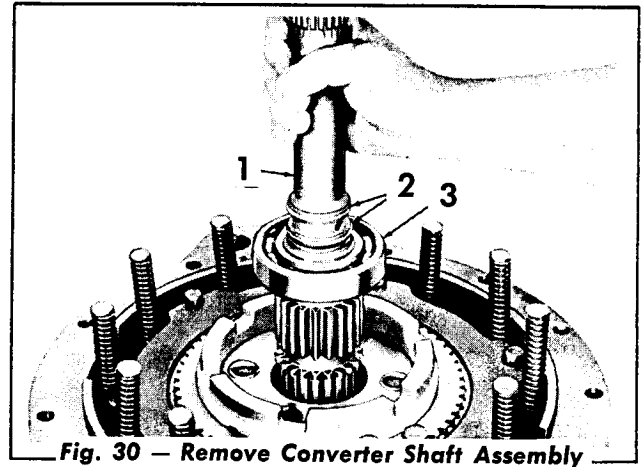

Fig. 30 — Remove Converter Shaft Assembly
14. Remove the converter shaft assembly (Fig. 30). Remove the hook type seal rings. If necessary for parts replacement, remove the bearing by pressing it toward the small end of the shaft.